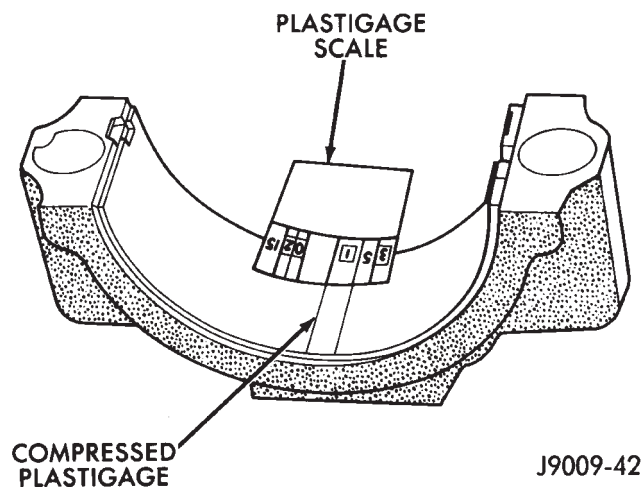

Fig. 17 Measuring Bearing Clearance with Plastigage
- (5) Install the lower bearing insert in the bearing cap. The lower insert must be dry. Place strip of Plastigage across full width of the lower insert at the center of bearing cap. Plastigage must not crumble in use. If brittle, obtain fresh stock.
- (6) Install bearing cap and connecting rod on the journal and tighten nuts to 45 N-m (33 ft. lbs.) torque. DO NOT rotate crankshaft. Plastigage will smear, resulting in inaccurate indication.
- (7) Remove the bearing cap and determine amount of bearing-to-journal clearance by measuring the width of compressed Plastigage (Fig. 17). Refer to Engine Specifications for the proper clearance. **Plastigage should indicate the same clearance across the entire width of the insert. If the clearance varies, it may be caused by either a tapered journal, bent con-**